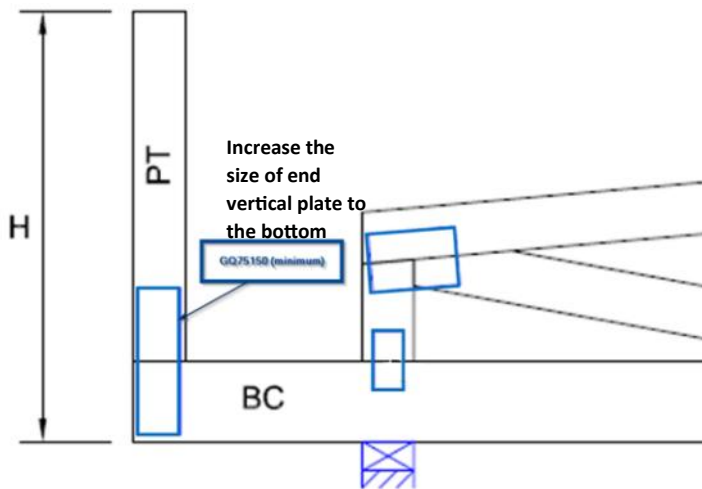

Figure 1 Minimum gang-nail size requirement
- Increase the size of the end vertical plate to the bottom chord (refer to Figure 1).